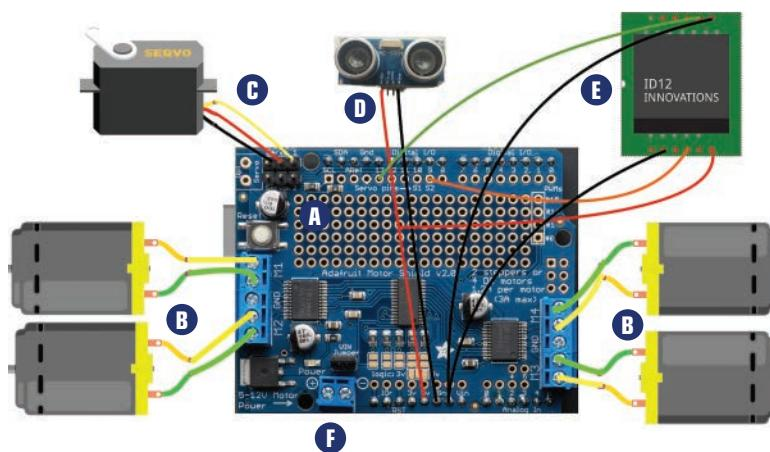

FIGURE 13.28 Wire up the electronics as you see here.
19. Next, let's begin installing the electronics. Figure 13.28 shows the various components and how to connect them, but let's cover each item on its own: